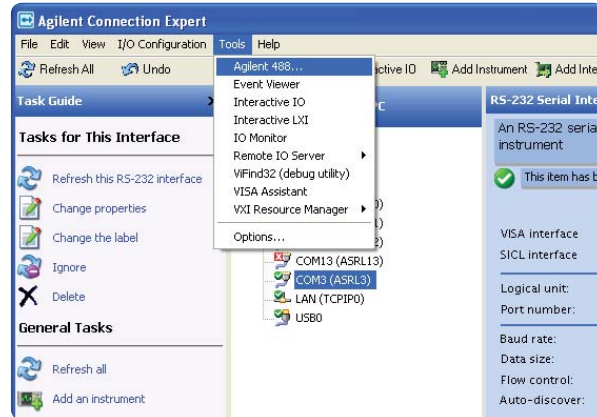

Figure 11. Selecting Agilent 488...
i) Select **Tools > Agilent 488...** See Figure 11.